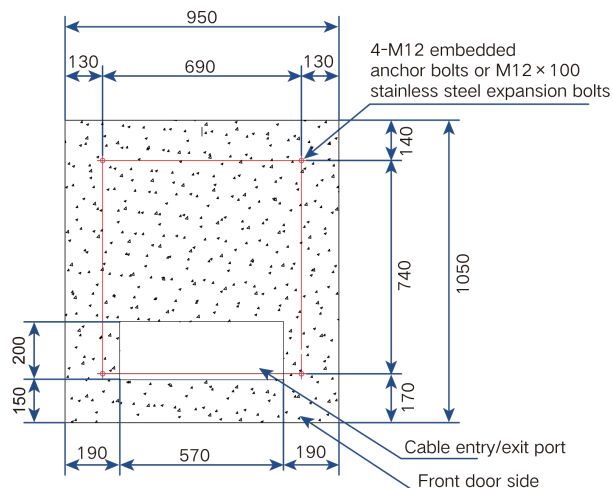

Figure 4-3 Location of Expansion Bolt Holes
- Step 2** Mark the holes for drilling on the foundation by referring to the figure of Figure 4-3 Location of Expansion Bolt Holes.